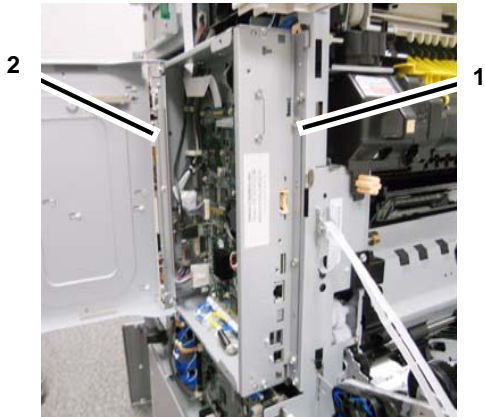

Figure 4 SBC Chassis Assembly
6. Remove the SBC Chassis Assembly. (Figure 4)